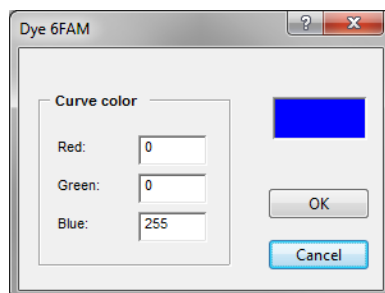

Figure 3.7: The *Dye* dialog box.
4.2 Double-click on **6FAM** or select the dye and press the <**Edit**> button to call the *Dye* dialog box (see Figure 3.7).